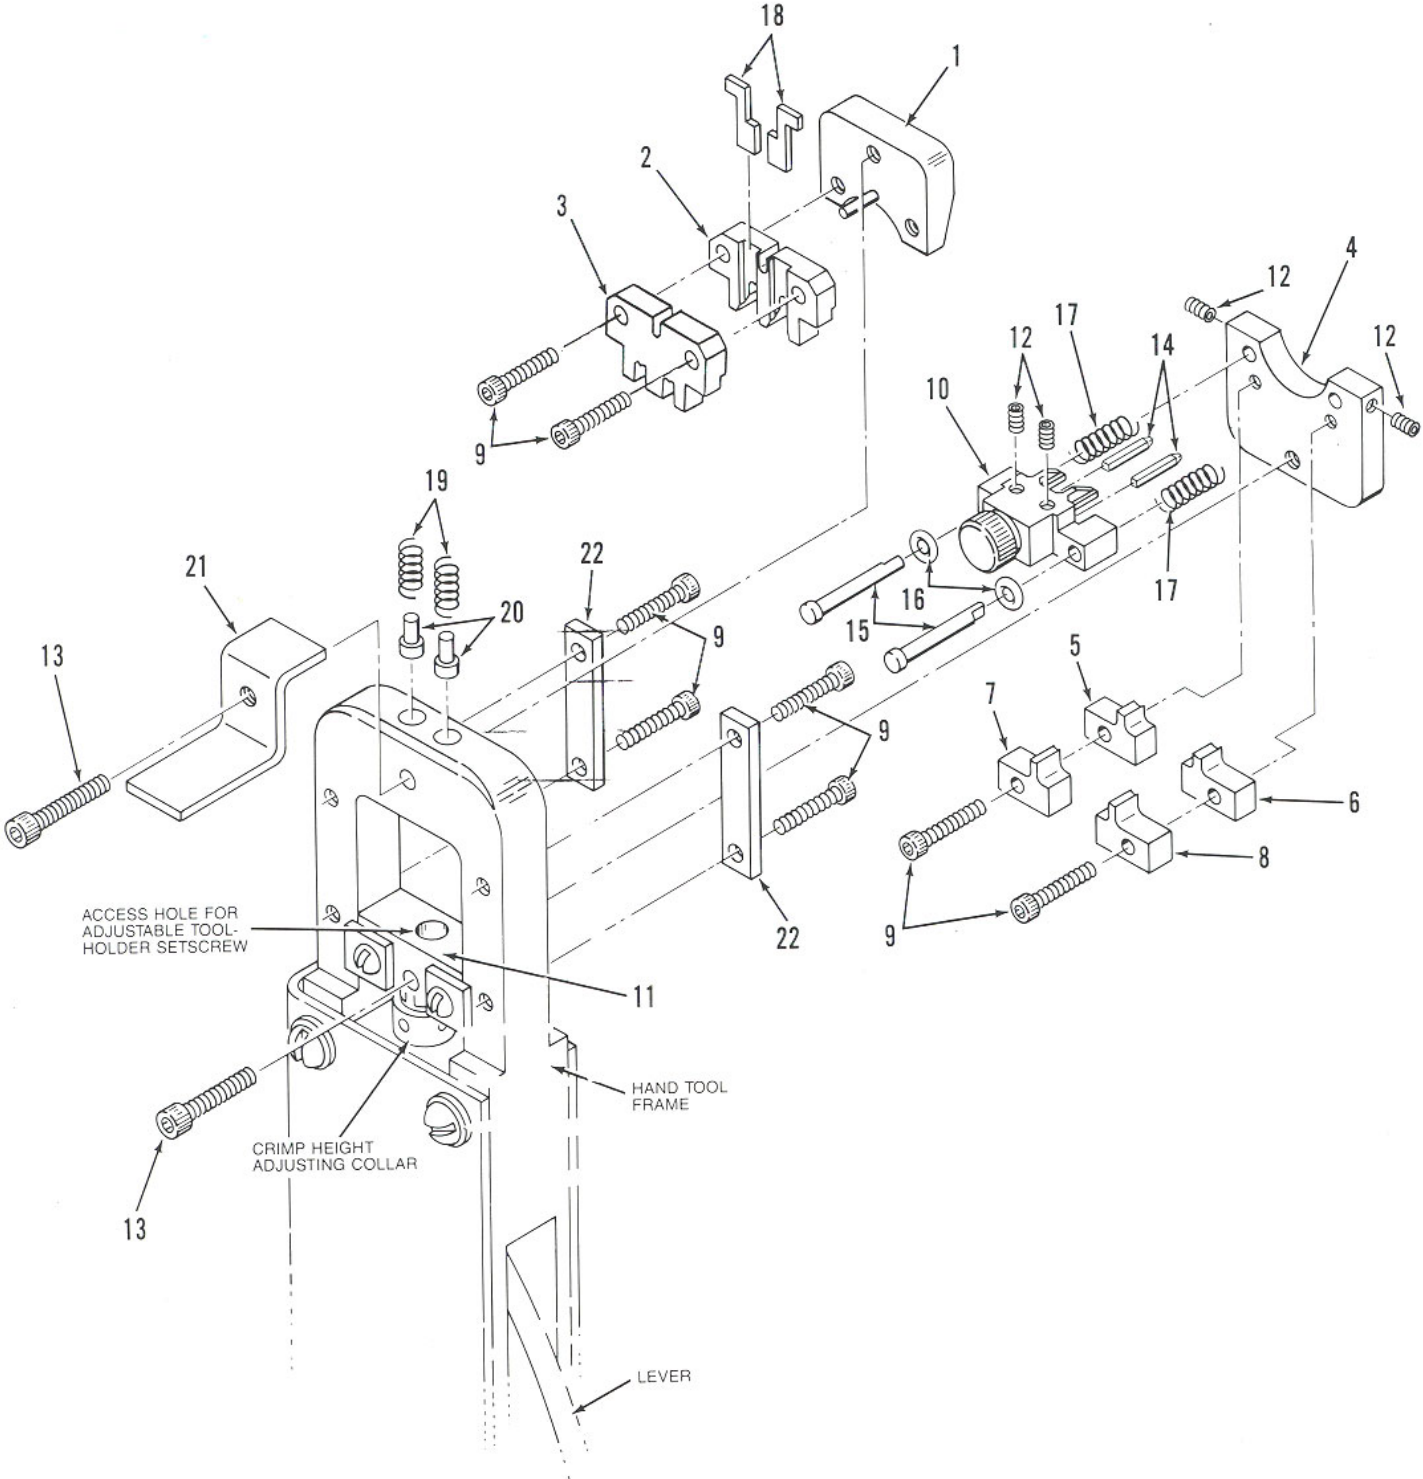

Figure 15. HT-95 Hand Tool Parts
**Wire and Insulation Barrel Crimpers and Tonker Removal** (See Figure 15)
- Loosen but do not remove at this time, the two 4-40 cap screws (9) that secure the crimpers to the crimper holder (1).
- Remove the 6-40 cap screw (13) from the crimper holder (1). Then remove the spring retainer (21) and the crimper holder (1) with crimpers attached.
- Remove the two-tonker spring's (19) and the two springs guide's (20) from the hand tool frame. This can be accomplished by tilting the hand tool down.
- Remove the two 4-40 cap screws (9) that secure the crimper holder (1).
5. Remove the crimpers (2 and 3) and tonkers (18) from the crimper holder.
6. Remove the damaged crimper(s) (2 or-3). The top crimper is the wire barrel crimper (3).
### **Holding Pin Removal** (See Figure 15)
These are parts that FCI considers practical for the user to stock for replacement. Recommended spare parts for the hand tool are specified in bold type in the parts list for Figure 15.
### *Parts List for Figure 15. HT-95 Hand Tool Parts*